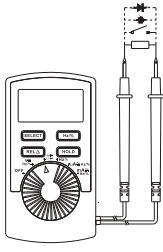

Figure 6
**6. Measuring Capacitance(See Figure 6)**